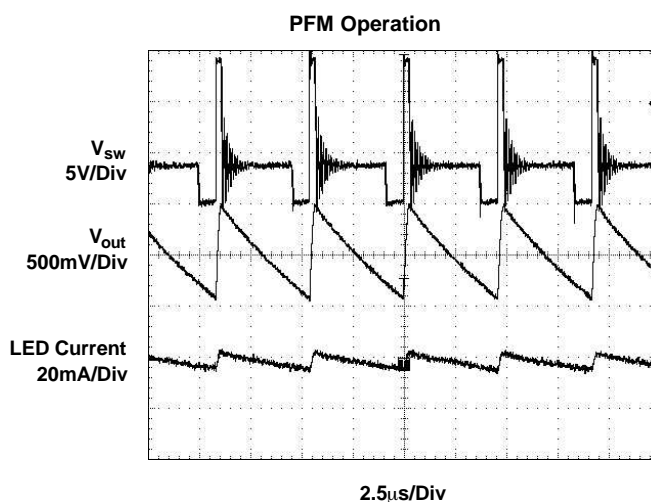
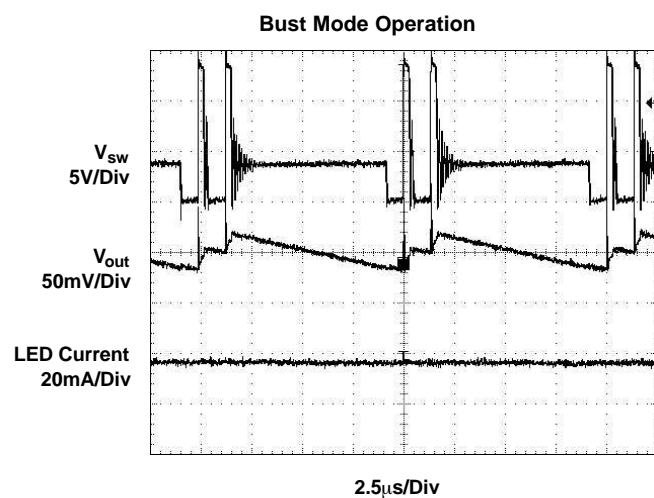

Figure 13.
Figure 14.
If the converter can support the desired LED current, the next step is to calculate the converter switching frequency at the operation point, which must be  $\leq 1$  MHz. Also the converter switching frequency should be much higher than the applied PWM frequency at the CTRL pin to avoid non-linear brightness control. Assuming the converter shows no double pulses or pulse bursts (Figure 13 and Figure 14) on the switch node (SW) the switching frequency at the operation point can be calculated as:
Assuming the converter does not show double pulses or pulse bursts (see Figure 13 and Figure 14) on the switch node (SW), the output voltage ripple is calculated as: